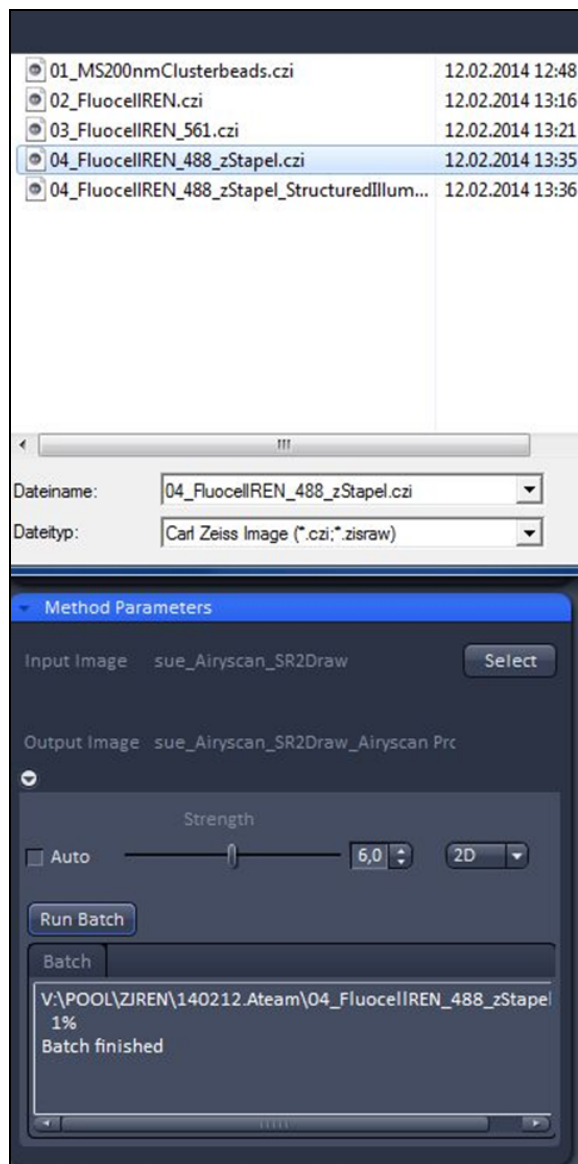

Fig. 256 Airyscan Processing tool:
- For batch processing press the **Run Batch** button (Fig. 256) and select the respective directory and files from the file selection window which opens at the top.